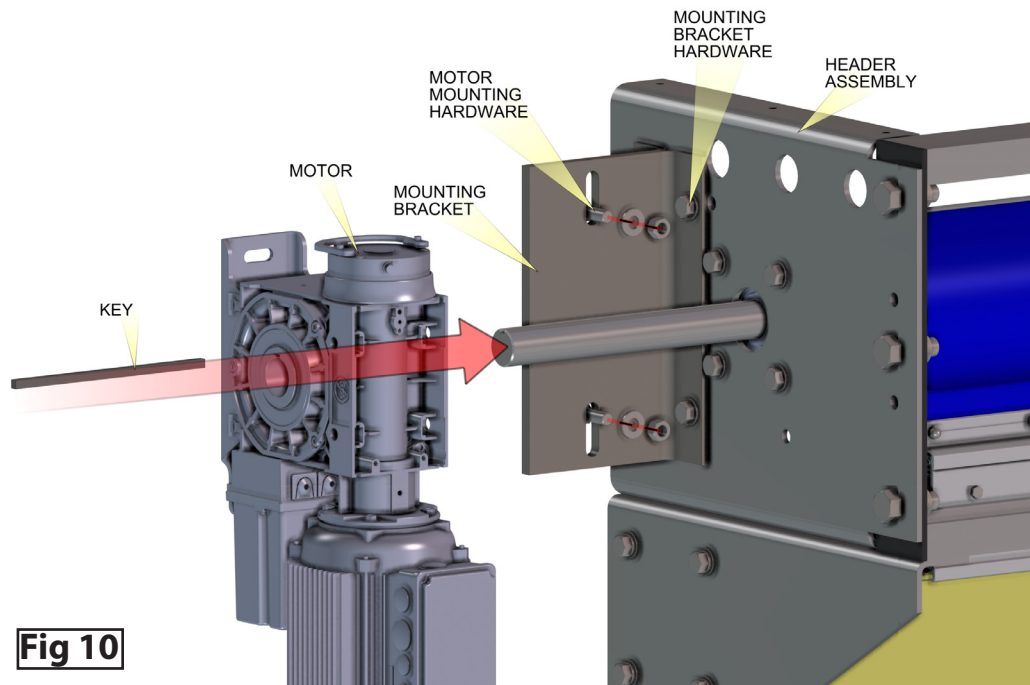
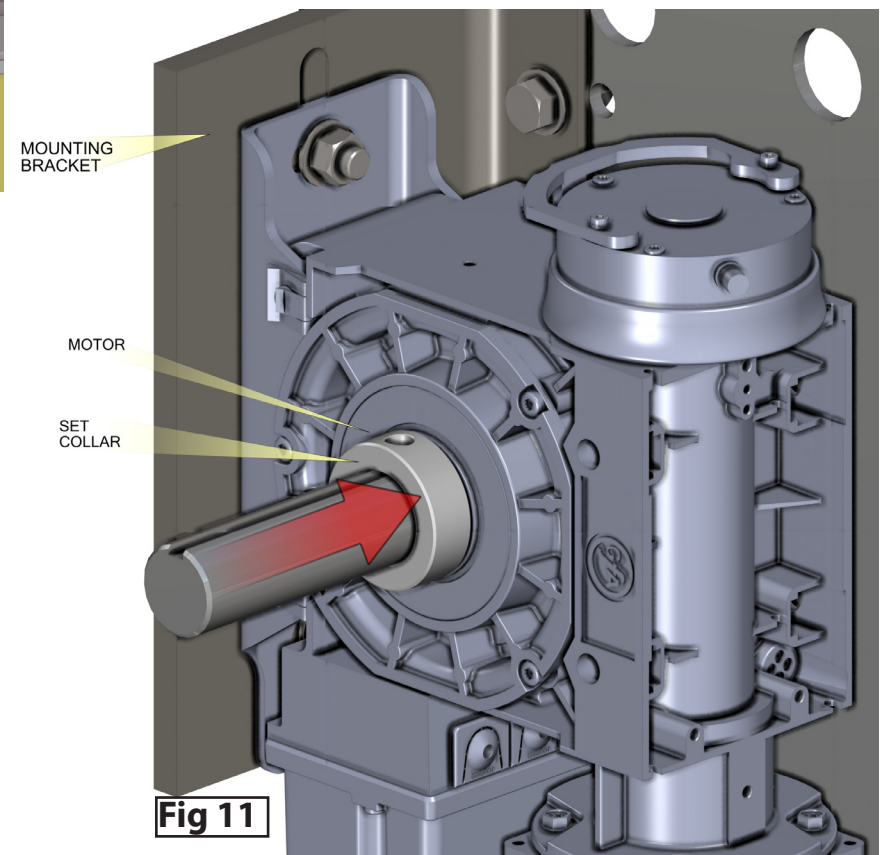

Fig 10
Fig 11
- Remove pre-installed motor mounting hardware from the mounting bracket as shown in FIG 10. Loosen the mounting bracket hardware so the bracket can slide back and forth as needed. See FIG 10.
- Slide motor onto shaft, as shown in FIG 10.
- Insert the key into the keyway and the set collar onto the shaft up against the operator. Tighten set screw in the set collar. See FIG 10 and FIG 11.